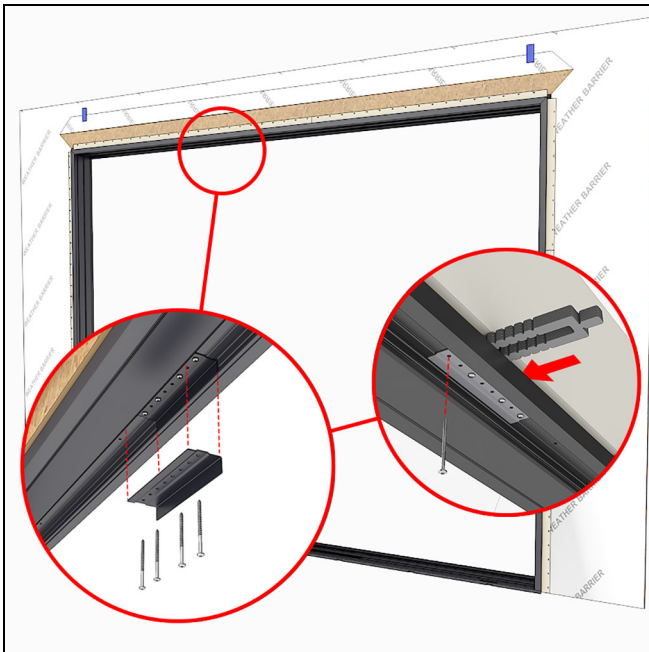

Figure 95
3. Fasten through the bracket into the head jamb framing with #10 x 3" installation screws at each pre-drilled location. Shim above the bracket as needed. See Figure 95.